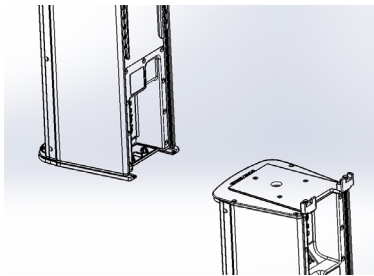

Figure 9 - Attach AC6 columns
- Slowly slide into plate until an audible click is heard. (Figure 9)